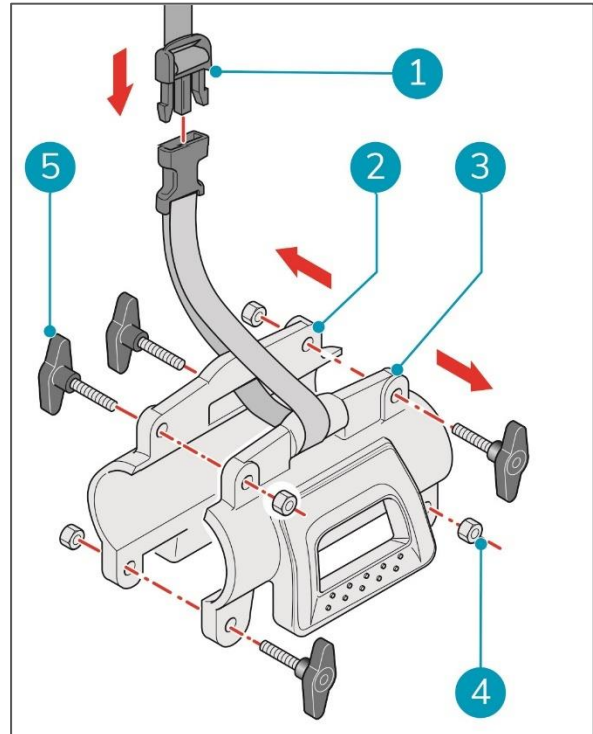

Figure 18
1. Remove the power wash carrier from the support strap (Figure 18, pos. 1).
2. Remove the wing nuts (4x) (Figure 18, pos. 5) and bolts (4x) (Figure 18, pos. 4) from the power wash carrier.
3. Separate the two carrier halves (Figure 18, pos. 3, 4).